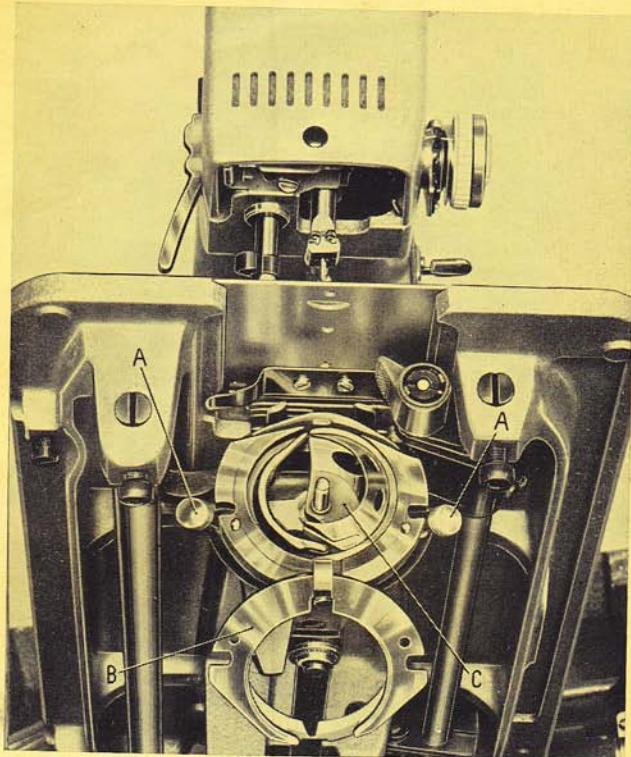

Fig. 18
- buttons « A » (Fig. 18) by spreading them apart thus releasing race cover plate « B » which then must be turned away from the race.